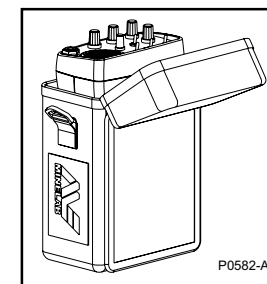

Figure 7 - Hipmounting the Control Box
- b) Place the control box into the hipmount bag with its control panel facing outwards (see figure 7).